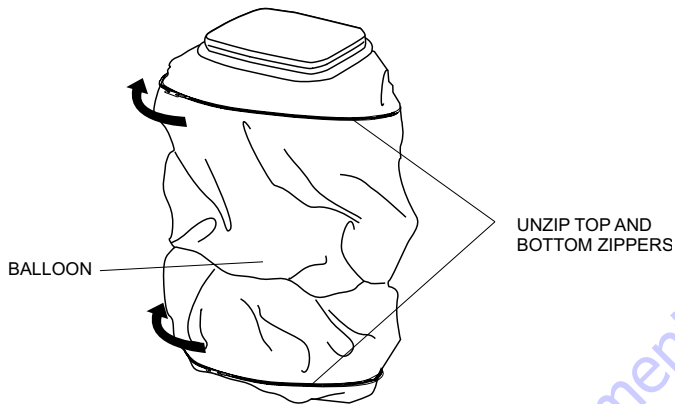

Figure 27. Unzipping Balloon
1. Unzip the top and bottom of the balloon. See Figure 27.